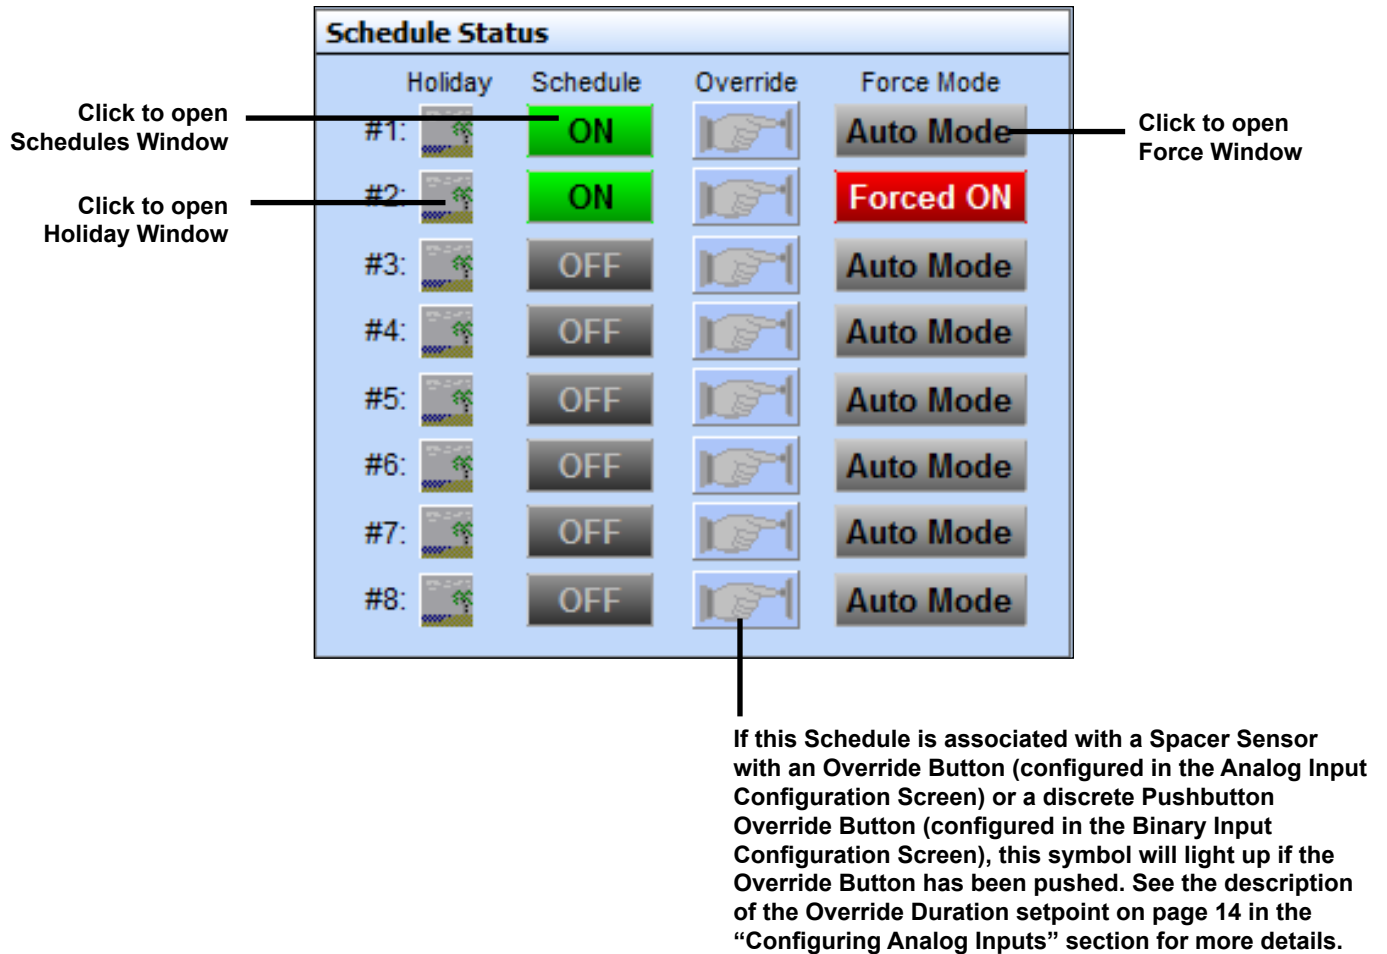
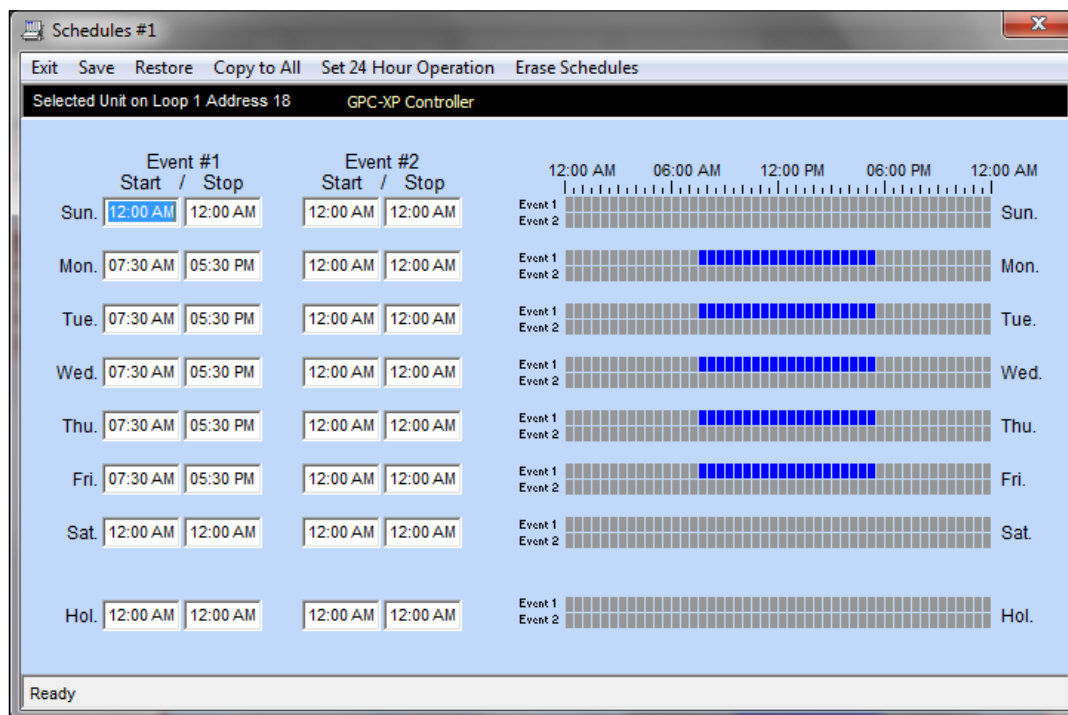
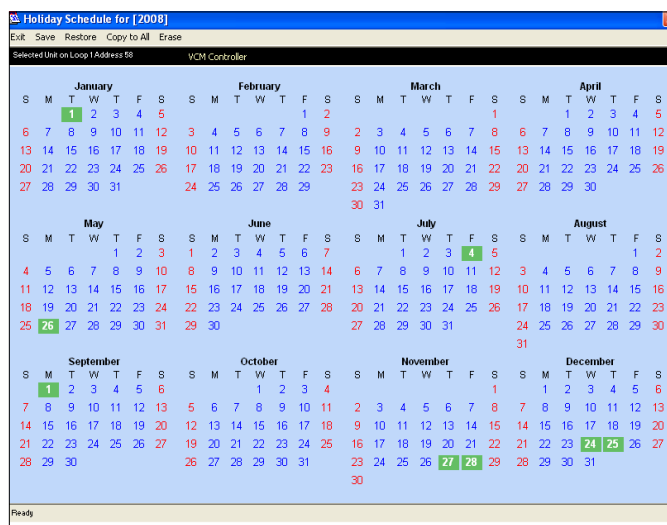
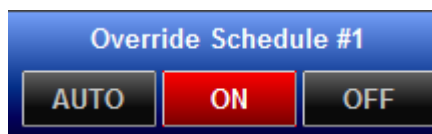

Figure 73: Schedule Status Window
Figure 74: Schedule #1 Configuration #1 Window
Figure 78: Holiday Schedule Window
Figure 79: Override Schedule
The *Schedule Status Window* is located in the bottom left of the *GPC-XP Controller Status Screen* (**Figure 8, page 11**) and allows (8) Schedules and (8) associated Holiday Schedules, Overrides, and Force Mode. See **Figure 73** below for the *Schedule Status Window* components and summary and the pages that follow for details.
Click the **<Schedule>** button in the *Schedules Status Window* (Figure 73, page 35) to open the *Schedule Configuration Window* (Figure 74 below). You can configure up to (8) separate schedules for various uses on the GPC-XP Controller. These Schedules are (7) day, (2) event per day Schedules.
To access the controller's Holiday scheduling, *click* the **<Holidays>** button in the *Schedules Status Window* (Figure 73, page 35). The *Holiday Schedule Window* will appear. See Figure 78 below.
To override a schedule, *click* on the **<Force Modes>** button next to the Schedule you wish to override from the *Schedules Status Window* (Figure 73, page 35). See Figure 79 below.